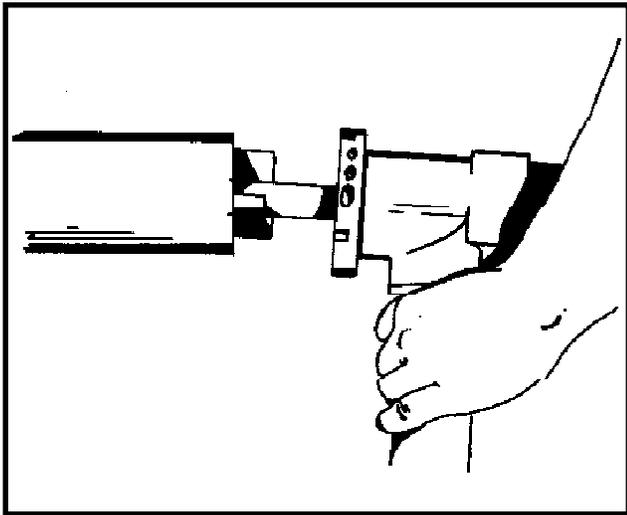

Figure 7
1. Insert the Mandrel Chucking Head into the pipe. For best results, keep the end of the chuck legs as close to the pipe edge as possible. The maximum depth of penetration into the pipe should be 3/4" (19 mm) from the rear of the Mandrel legs to the pipe edge. This will allow for a normal prep and still keep the machine body and rotating head rigid (Figure 7).